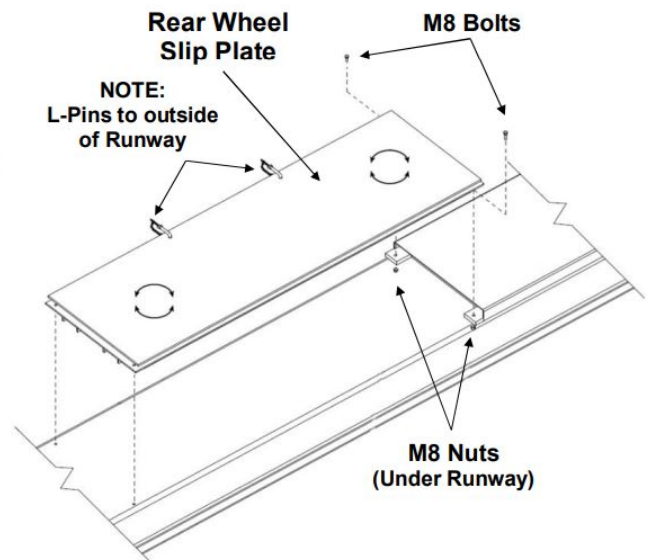

Fig. 6
7. Carefully, center and square the Rear Wheel Slip Plate (#6) on Runway – Fig 6. NOTE: Slip Plate Tabs to be positioned above the top of the Long Spacer Tabs. Also Ensure Pins are positioned to the outside of Runway.
8. Remove the Slip Plate L-Pins to gain access to the front holes by angling the front of the Slip Plate. Align the Slip Plate holes to the Tab Holes for the Long Spacer & Runway, secure using M8 Bolts & Nuts noted for – Fig. 6. NOTE: DO NOT Bolt the back end of Slip Plate at this time.
10. Insert L-Pins back in Slip Plate holes to secure – Fig 6.